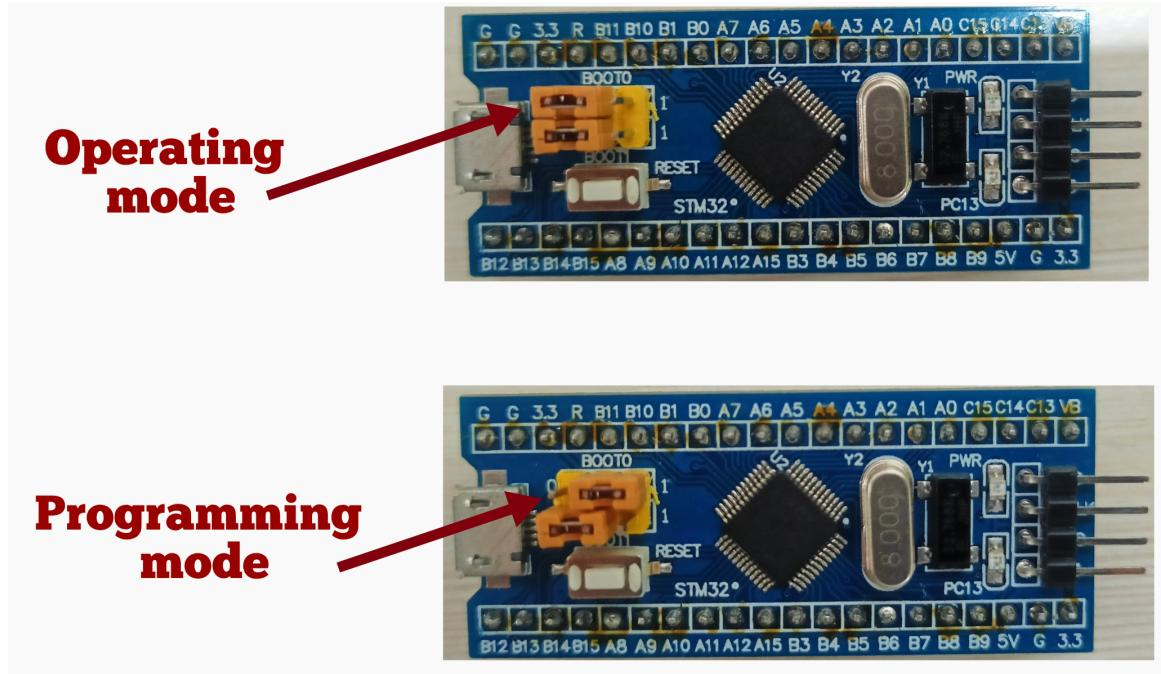

Figure 12.1.1.7.1: STM32 Operating and Programming mode
12.1.1.7. To make the stm32 board into Programming mode, by setting the aligners to programming mode as shown in Fig 12.1.1.7.1. This configuration will ensure that the microcontroller enters the system memory programmer on reset.
12.1.1.11. After flashing, the inbuilt LED present on the stm32f103c8 will start blinking and then change the STM32 board to operating mode as shown in Fig 12.1.1.7.1 inorder run your code from the main flash memory.
12.2.3.6. Before flashing code to STM32 set the STM32 board to Programming mode as shown in Fig. 12.1.1.7.1, then change the mode to Operating mode as shown in Fig. 12.1.1.7.1 after flashing the code in order to run your program from main memory.
12.3.2.5. Before flashing code to STM32 set the STM32 board to Programming mode as shown in Fig. 12.1.1.7.1, then change the mode to Operating mode as shown in Fig. 12.1.1.7.1 after flashing the code inorder to run your program from main memory.